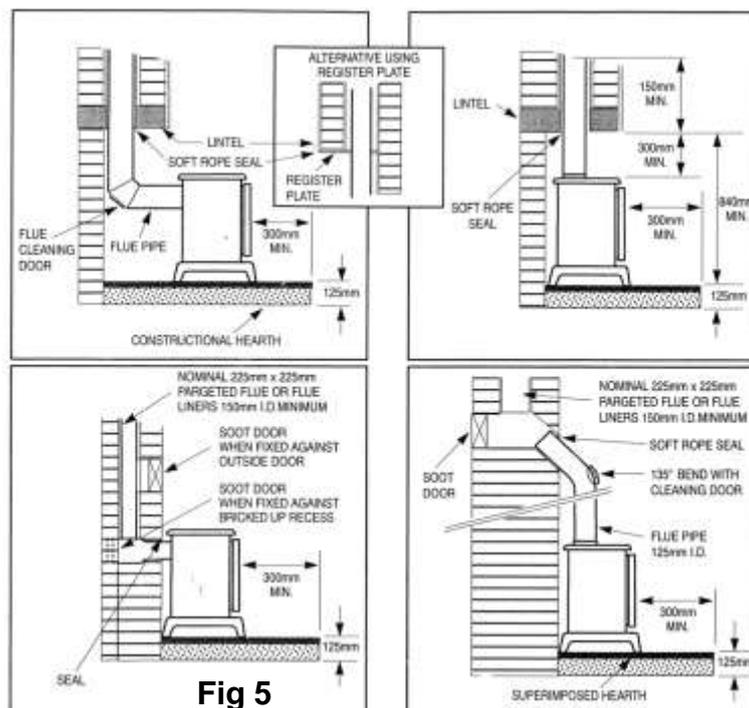

Fig 5
If the stove is connected via flue pipe to an existing brick chimney, square bends and horizontal runs must not be used. A cleaning door must be included at every bend. See **fig 5** below for details.
- Sweep the chimney thoroughly from an accessible position (see **fig 5, page 12**).